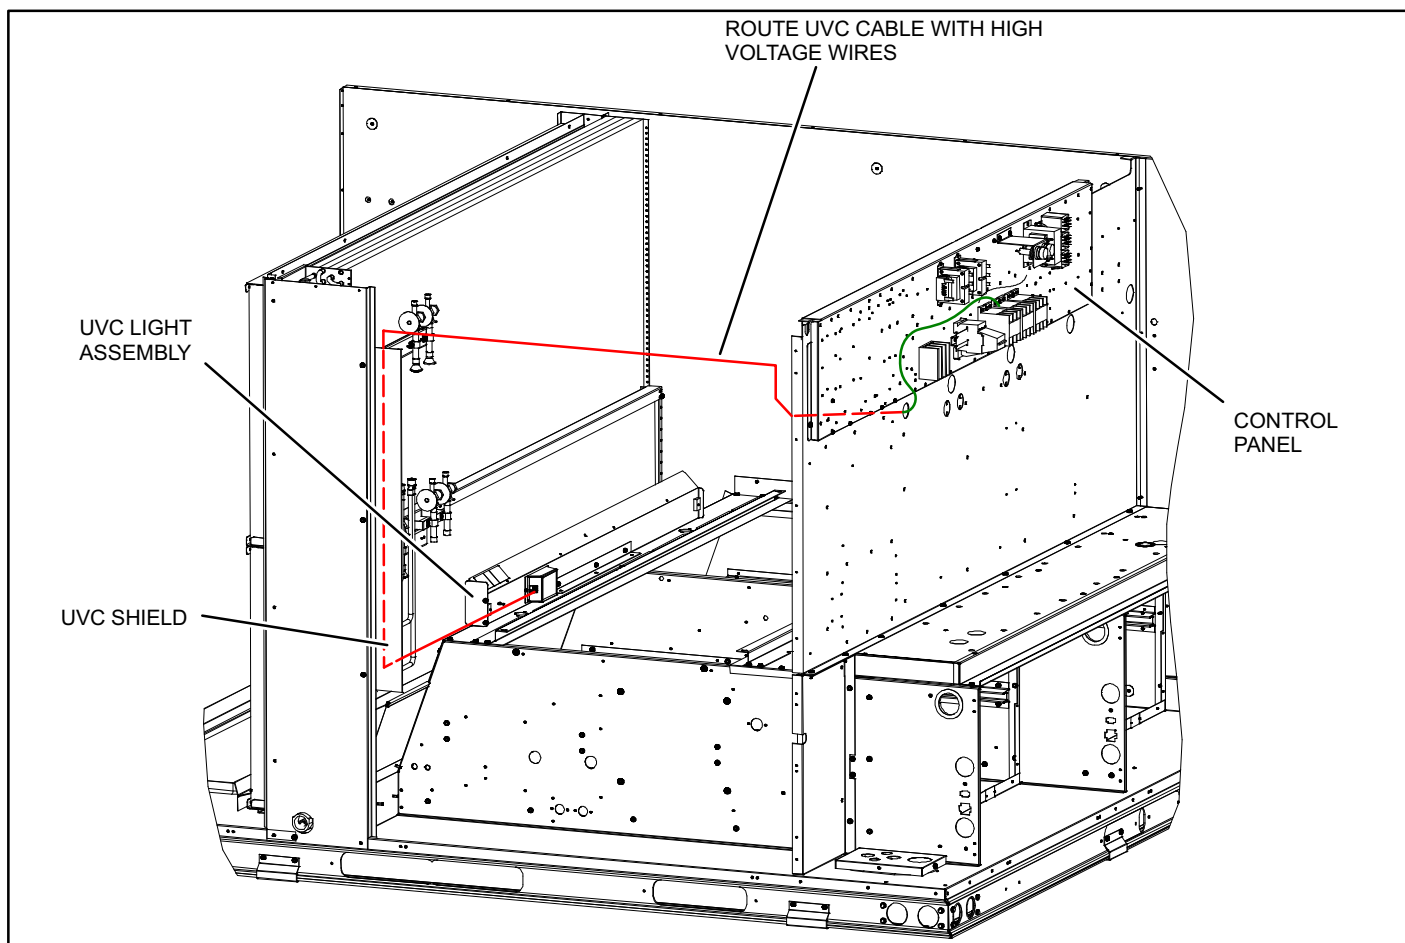

Figure 1. Parts arrangement with wire routing (Typical)
- Review unpacking list and parts arrangement and wire routing as shown in figure 1.